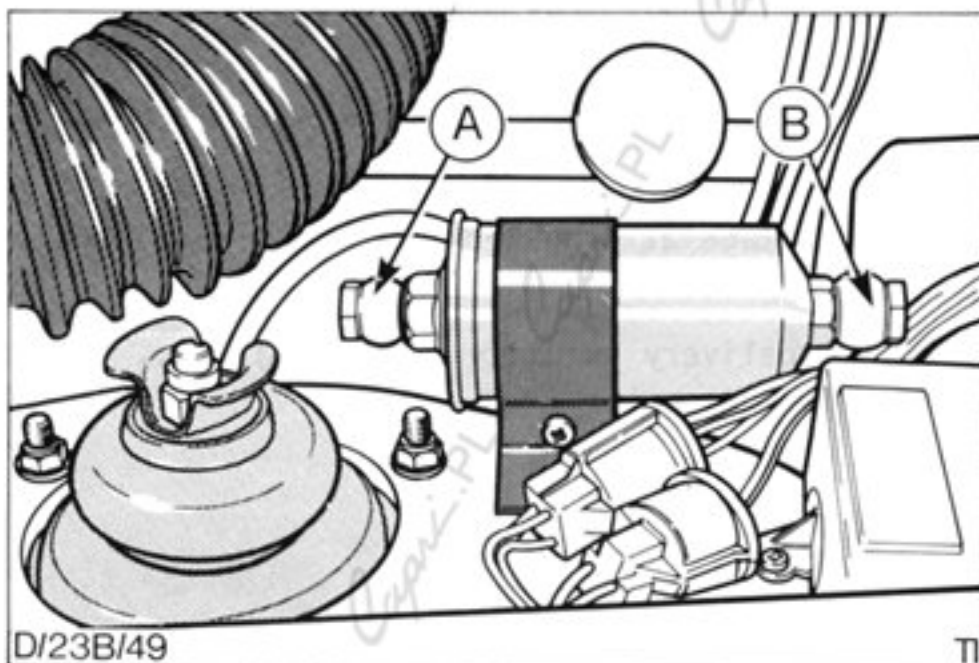

Fig.103. Fuel filter assembly.
4. Position a piece of absorbent cloth beneath filter fuel connections and disconnect pipes. Refer Fig.103.
NOTE: Ensure clamp is fitted correct way round. Refer Fig.103, which shows fuel inlet and outlet connections.